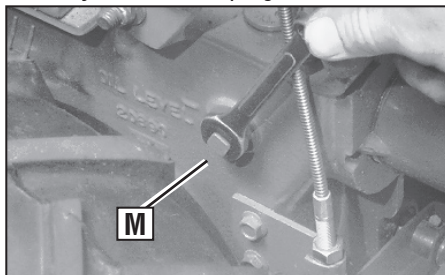

Figure 2-10: Gear oil level check plug.
2. Remove the oil level check plug (M, Figure 2-10) on the left-side of the transmission. (Due to dried paint on the plug threads, it may require some force to remove the plug the first time.) The gear oil level is correct if oil starts to flow out of the hole as the plug is removed. If so, securely reinstall the plug.
- (d) Reinstall and tighten securely the gear oil fill plug (M, Figure 2-10).